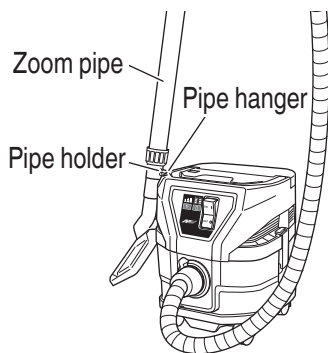

Fig. 27
(4) Storing the appliance during breaks (see **Fig. 27**)